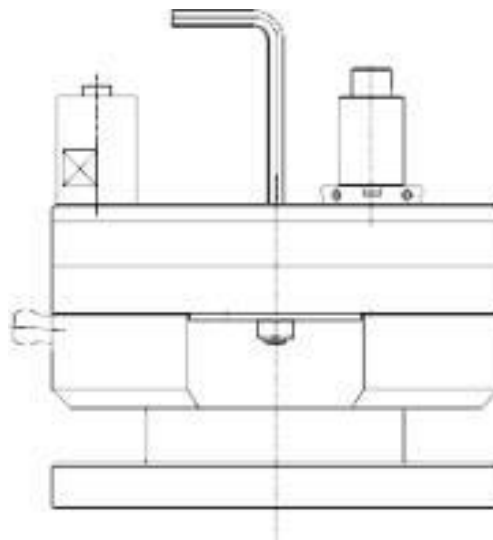

Figure 17: Set the roll start position / Tensioning the radial rolling head E
1. Insert the supplied hexagon socket wrench into the center gear (6)
2. Turn the center gear (6) until the rollers engage and are ready for operation in the start position, see Figure 17.